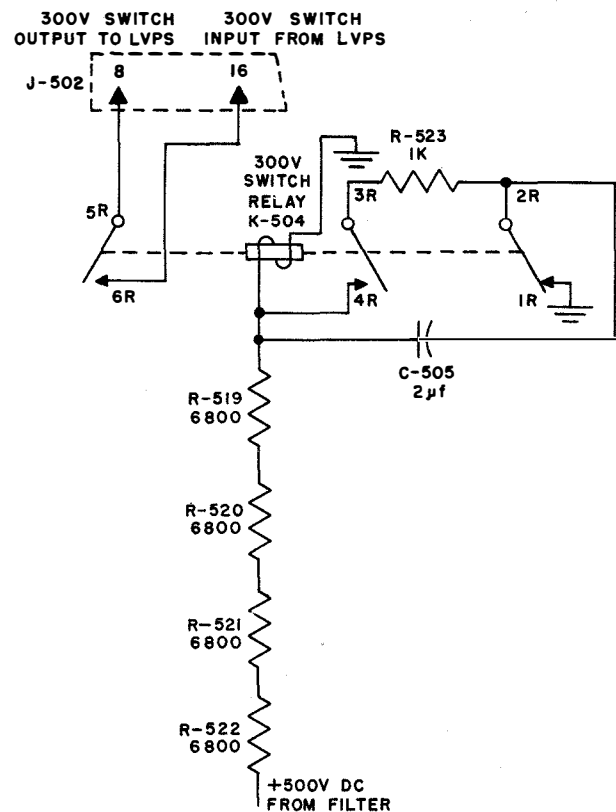

Figure 2-62. 300-Volt Switch Relay, Simplified Schematic
c. 300-VOLT SWITCH RELAY.—The 300-volt switch relay, K-504 (figure 2-62), assures that +300-volt d-c supply of the LVPS does not come on before the +500-volt d-c supply of the MVPS, as explained in paragraph 4e. When the +500-volt d-c supply comes on, it is applied across the dropping resistors, R-519, R-520, R-521, and R-522, in series with the 300-volt switch relay, K-504. Capacitor C-505 is in parallel across K-504 through its normally closed contacts 1R and 2R, which makes K-504 slow operating. When K-504 operates, C-505 is removed from the circuit and resistor R-523 is placed across C-505 through contacts 3R and 4R of K-504 to allow C-505 to discharge without arcing at the contacts. When K-504 is energized, contacts 5R and 6R close, completing the +300-volt d-c supply circuit in the LVPS.